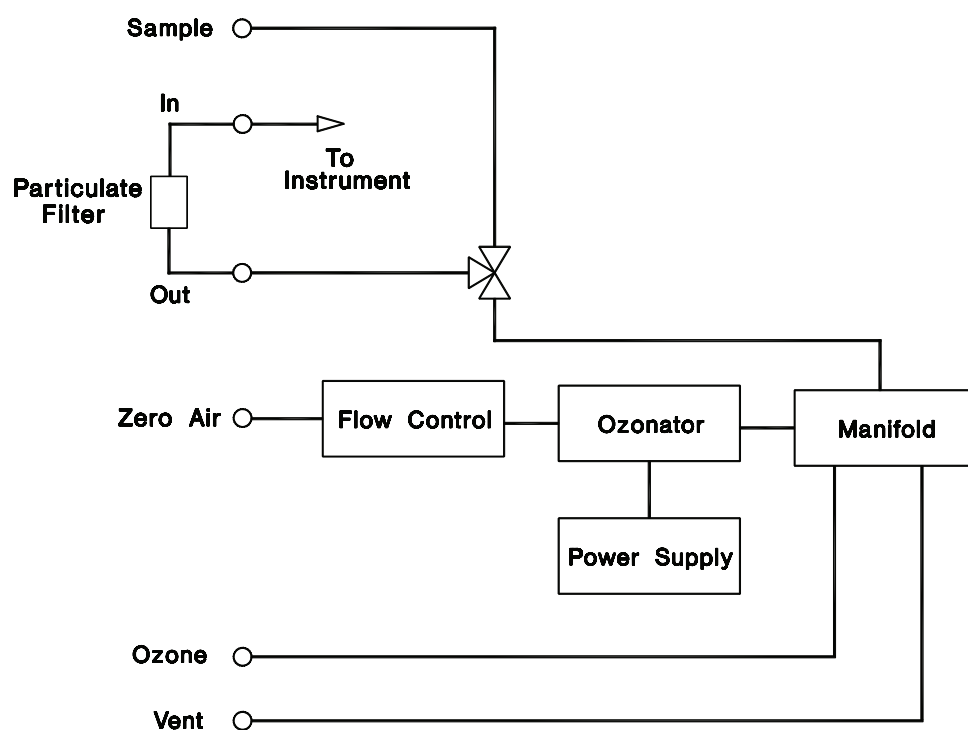

Figure 4-3. Ozonator Flow Scheme
1. Connect a transfer standard or primary standard to the ozone OUT bulkhead fitting of the instrument (see Figure 4-3).